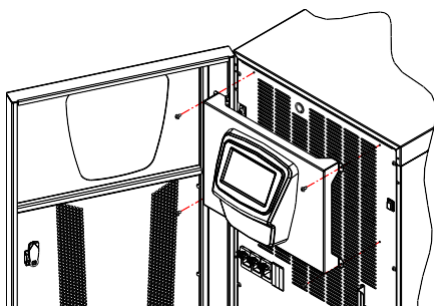
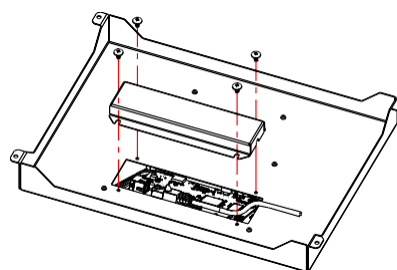

Fig. 65
Fig. 66
- Remove the n°4 screws from the metallic display support (Fig. 65). Remove n°4 screws from the cable cover (Fig. 66), then remove the RJ45 cable.